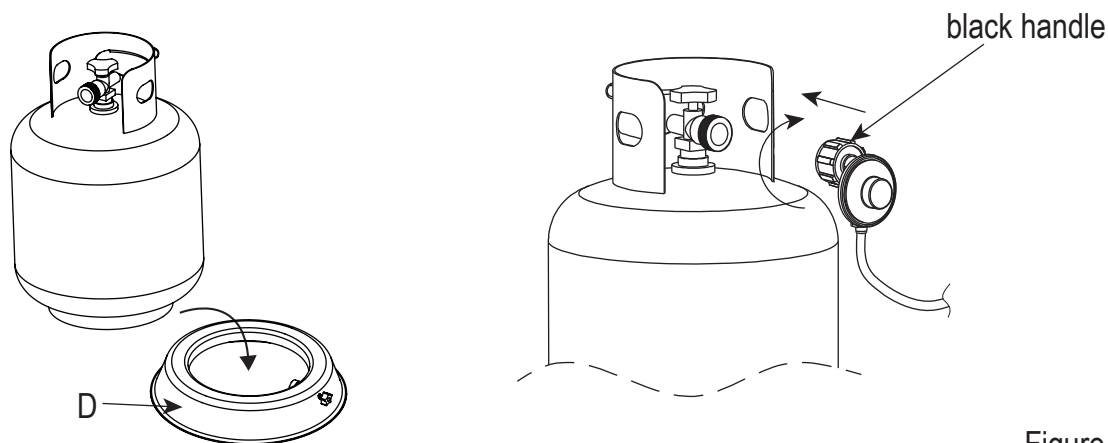

Figure 3
3. Put the gas tank in the tank seat (D), connect the regulator, screw the black handle clockwise to tighten, turn the black handle counterclockwise to remove. The knob on the control panel is turned all the way to the "OFF" position when the fireplace is NOT in use (see Figure 3).